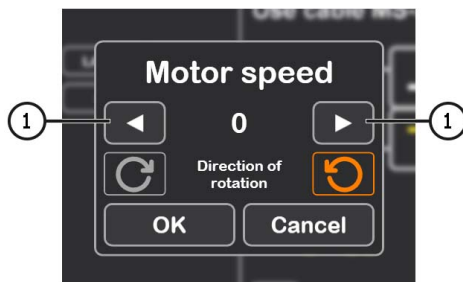

Figure 26
- 3.1. After activating the diagnostics mode, a preliminary alternator check window will open, see Figure 26.
3.2. Using the alternator drive control buttons (see item 1 in Figure 26), set the speed of the alternator pulley rotation within the range of 100 to 150 rpm.
4. Before activating the diagnostic mode, a preliminary alternator check window will open, see Fig. 26.
4. After clicking the "Automatic test" button, a preliminary alternator check window will appear, see Figure 26.
- 4.1. Using the alternator drive control buttons (see item 1 in Figure 26), set the speed of the alternator pulley rotation within the range of 100 to 150 rpm.
3. Before activating the diagnostic mode, a preliminary alternator check window will appear, see Figure 26.
3.1. Using the alternator drive control buttons (see position 1 in Figure 26), set the alternator pulley rotation speed within the range of 100 to 150 rpm.